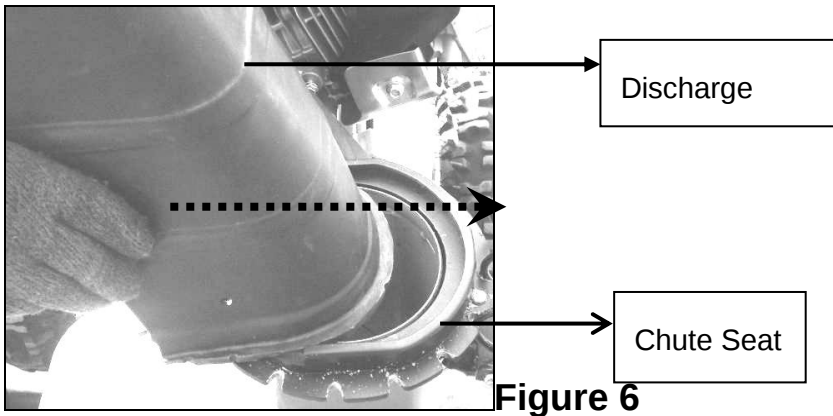

Figure 6
2. Push parallel the discharge chute into the chute seat as. See figure 6